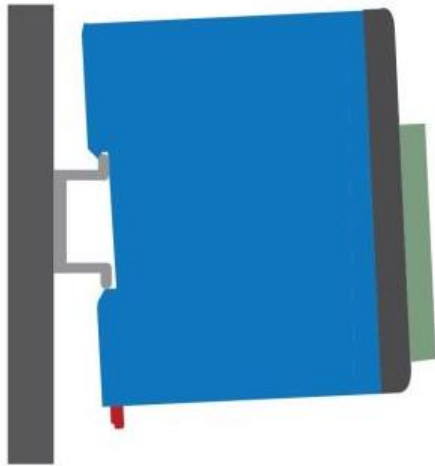

Figure 4.1
- 1 – Slide the top of REX on to the DIN-rail (Figure 4.1)
- 2 – Push the bottom of REX on to the DIN-rail (Figure 4.1)